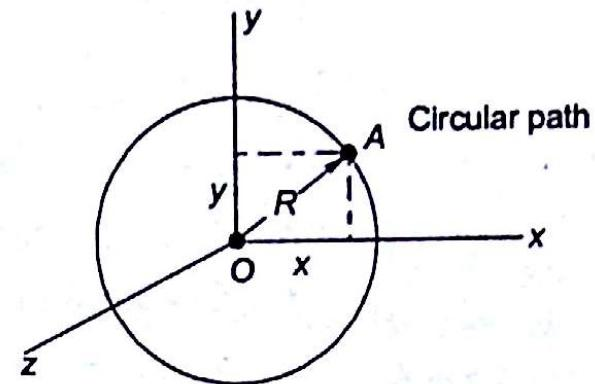

Fig. 1.26
1.1 A particle moves along a circular path of radius R in $x-y$ plane as shown in Fig. 1.26. What is the position vector R of this particle in terms of y -co-ordinate?